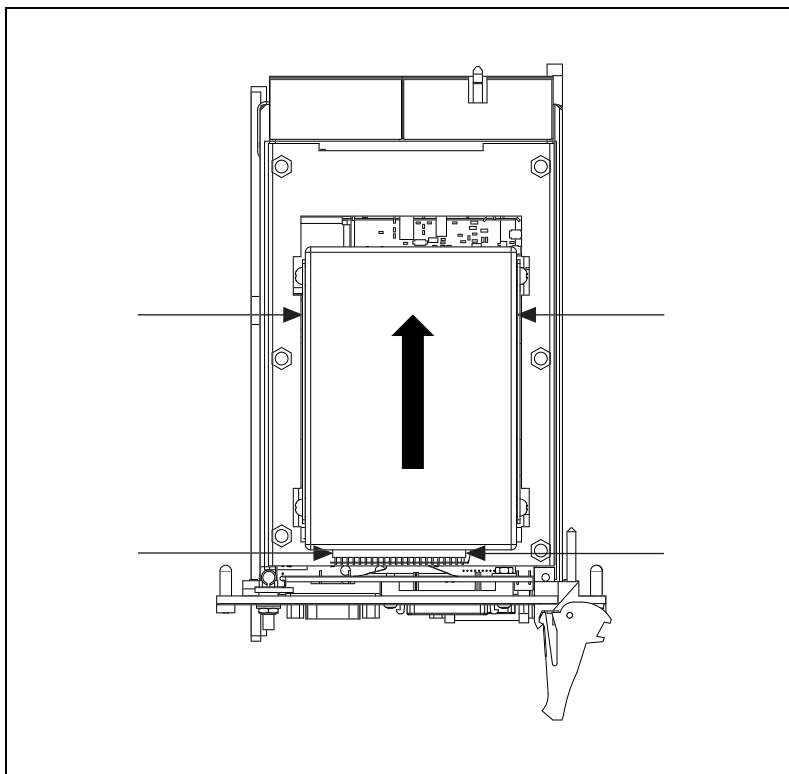

Figure 2. Hard Drive Removal
3. Lift the hard drive from the seating bracket and firmly grasp the sides, then hold the 44-position flex connector firmly at the sides, and pull the hard drive straight back, as shown in Figure 2.
2. Grip the flex connector and the hard drive at the positions shown in Figure 2.